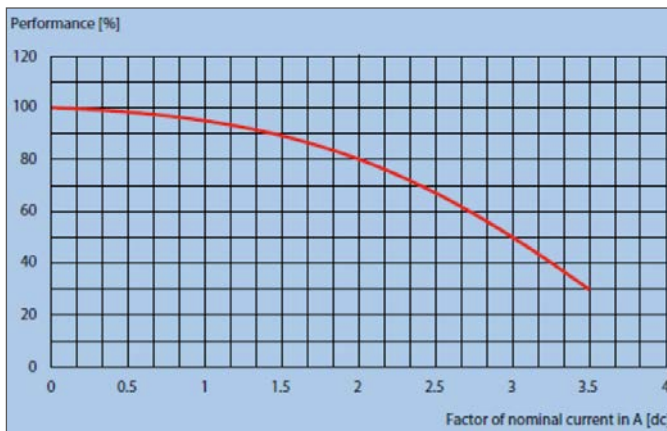

Figure 3. Saturation of a Typical Choke Due to Current.
**Rated Current** – The rated current should be equal to the maximum input current to be drawn from the device being filtered. Chokes consist of an electrical conductor wound around a material with magnetic characteristics, the core. The choke always makes use of its magnetic characteristics to suppress RF noise. The core material determines the performance of a choke. It enhances the magnetic effects in the choke, improves the suppression characteristics and leads to more compact components. Core materials are also dependent on outside factors such as temperature or current. When used outside of its specified current range, a choke can saturate, leaving it unable to supply its original impedance (see Figure 3).